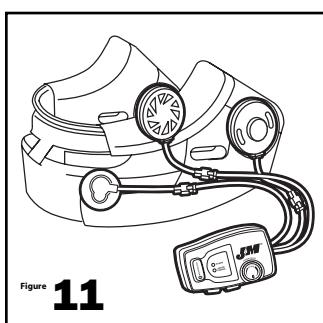

Figure 11
4. Place the speakers into the cheekpads. **See Figure 11.**